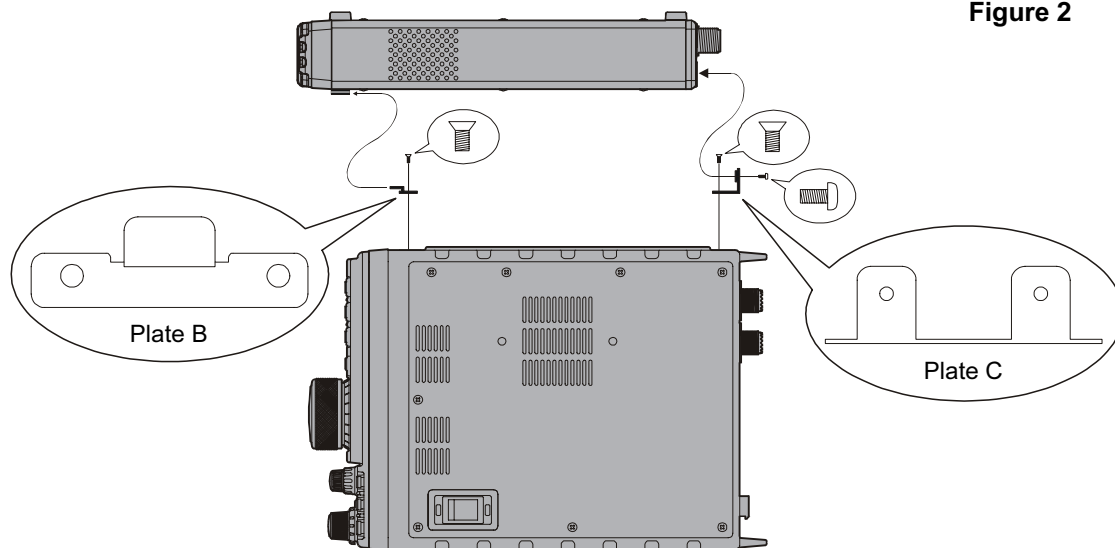

Figure 3
3. Remove the four rubber lugs and their four screws (**Figure 2**), then position mounting plates “B” and “C” so that their holes align with those on the FT-897, and secure using the supplied screws (**Figure 3**).
4. To install the FC-30, position the FC-30 so that the mounting plate “A” on the side fits into the mounting plate “B” on the FT-897 (**Figure 3**), then screw the mounting plate “C” (on the FT-897) to the FC-30 using the supplied screws (**Figure 1**).